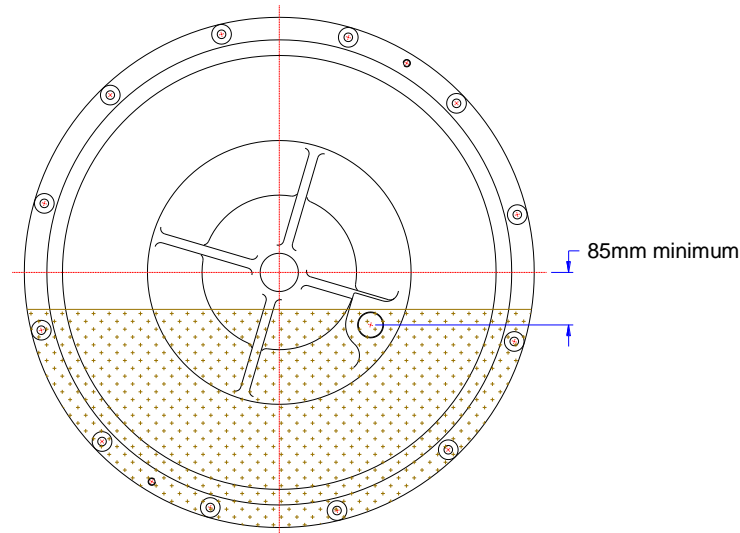

Figure 2
1. Ensure the oil sampling plug is below the final drive oil level. Refer Figure 2.